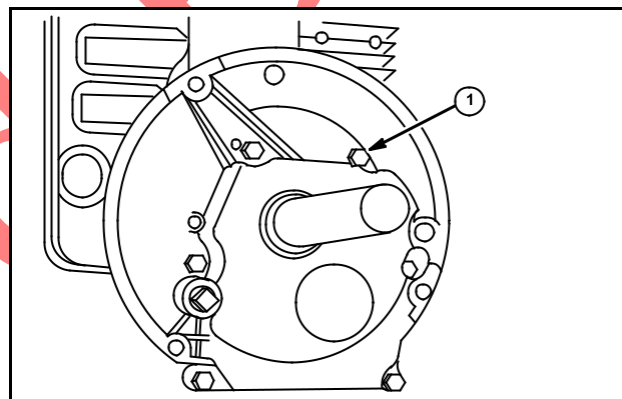

Fig. 47
2. Install sump and gasket being sure the screw that enters the breather chamber has nonhardening sealant on threads such as Permatex II, (See Fig. 47).
NOTE: On right angle auxiliary drive power take-off models, screw (1) does not need sealant, but the four screws holding the gear sump cover require sealant, Fig. 47.
5. Place non-hardening sealant on screw (1) that enters the breather chamber, Fig. 47, such as Permatex II, and install sump screws.